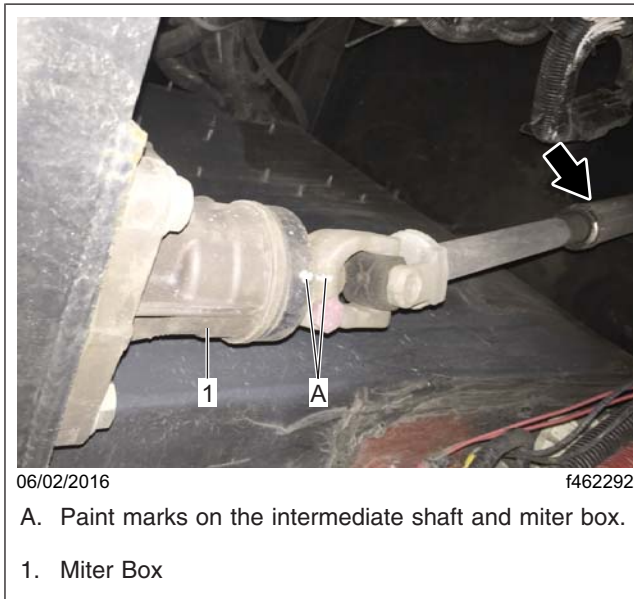

Fig. 7, 90-Degree Miter Box and Intermediate Shaft
NOTE: It will help to mark the position of the intermediate shaft at the 90-degree miter box before removal. This will make it easier to align during installation. See Fig. 7.
- NOTE: Ensure that the intermediate shaft is properly aligned by aligning the marks on the 90-degree miter box. See Fig. 7.